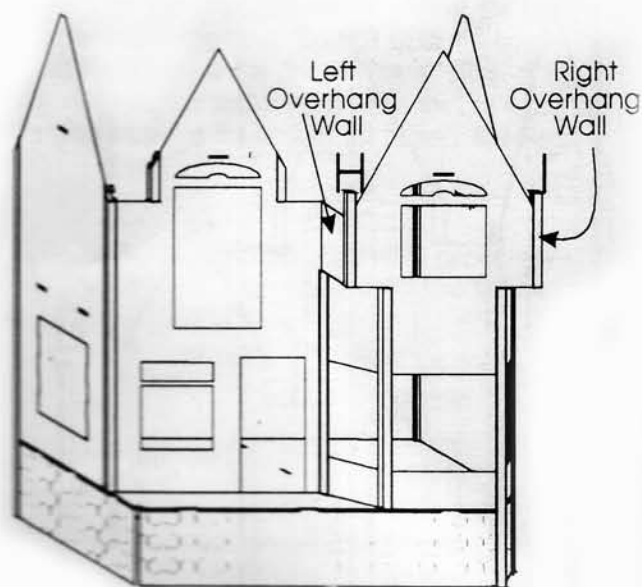

Figure 16
11. Overhang Walls- Glue a 4" scrap piece of S5-2 (H and I) to each edge of the Front Bay Top Wall with the empty grooves facing the back of the house and the bottoms flush with the bottoms of the overhanging sides of the Front Bay Top Wall. Install the Left Overhang Wall by interlocking it with the Left Front Wall and inserting it into the S5-2 just installed on the Front Bay Top Wall and gluing in place. To install the Right Overhang Wall, glue and slide the Right Overhang Wall down the front facing 5-70 groove in the "D" longframe assembly and the S5-2 installed on the right edge of the overhang of the Front Bay Top Wall. See Figure 16.